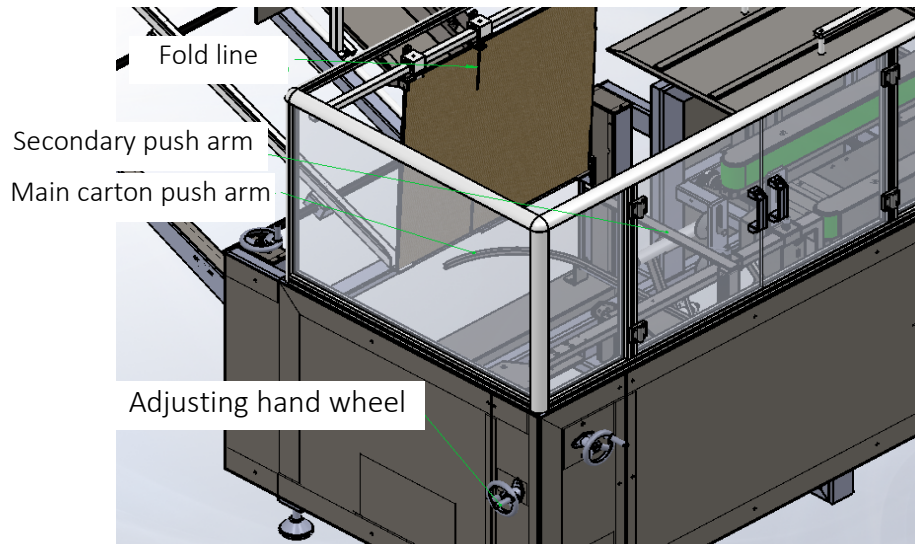

Figure 7.
- 1) With the loaded cartons in place Use the hand wheel shown in Figure 7 and set the push arms in line with the cartons folding line or crease.